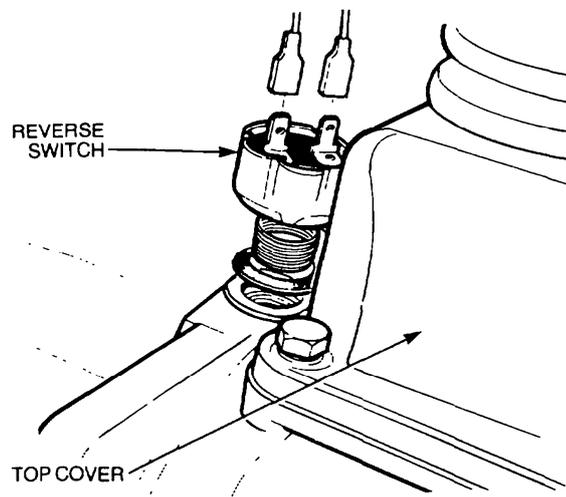

Figure 68 Reverse Switch Removal
- e. Unscrew the reverse light switch (Figure 68).